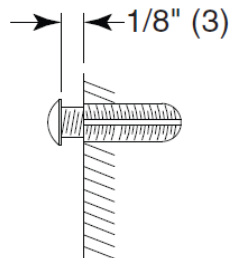

Figure 4
6. Insert 4 screws into the 4 corner plastic anchors and leave 1/8" space from the wall under head for hanging dispenser (Fig. 4).